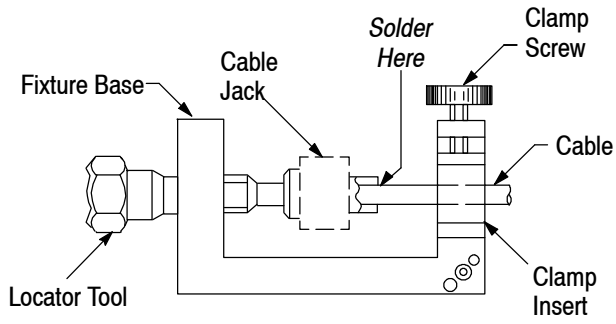

Figure 4
8. Place the assembly in the fixture base as shown in Figure 4, then:
9. With the cable jack firmly against the locator tool, use solder to attach the cable to the cable jack. See Figure 4. Remove excess solder.